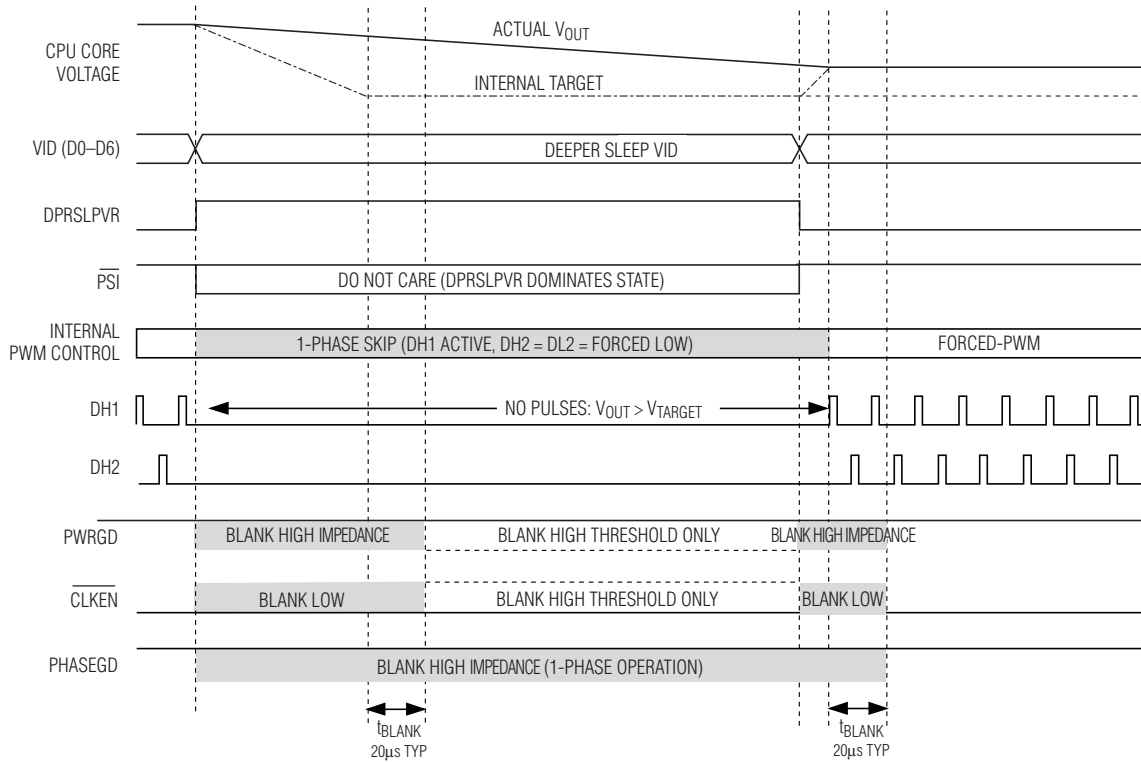

Figure 4. C4E (C4 Early Exit) Transition
When DPRSLPVR goes high, the MAX17582 immediately disables phase 2 (DH2 and DL2 forced low), blanks PHASEGD high impedance, and enters pulse-skipping operation (see Figures 4 and 5). If the VIDs are set to a lower voltage setting, the output drops at a rate determined by the load and the output capacitance. The internal target still ramps as before, and PWRGD remains blanked high impedance until 20 μs after the output voltage reaches the internal target.
- **Fast C4E Deeper Sleep Exit:** When exiting deeper sleep (DPRSLPVR pulled low) while the output voltage still exceeds the deeper sleep voltage, the MAX17582 quickly slews (50mV/ μs min regardless of R_{TIME} setting) the internal target voltage to the DAC code provided by the processor as long as the output voltage is above the new target. The controller remains in skip mode until the output voltage equals the internal target. Once the internal target reaches the output voltage, phase 2 is enabled. The controller blanks PWRGD, PHASEGD, and $\overline{\text{CLKEN}}$ until 20 μs after the transition is completed. See Figure 4.